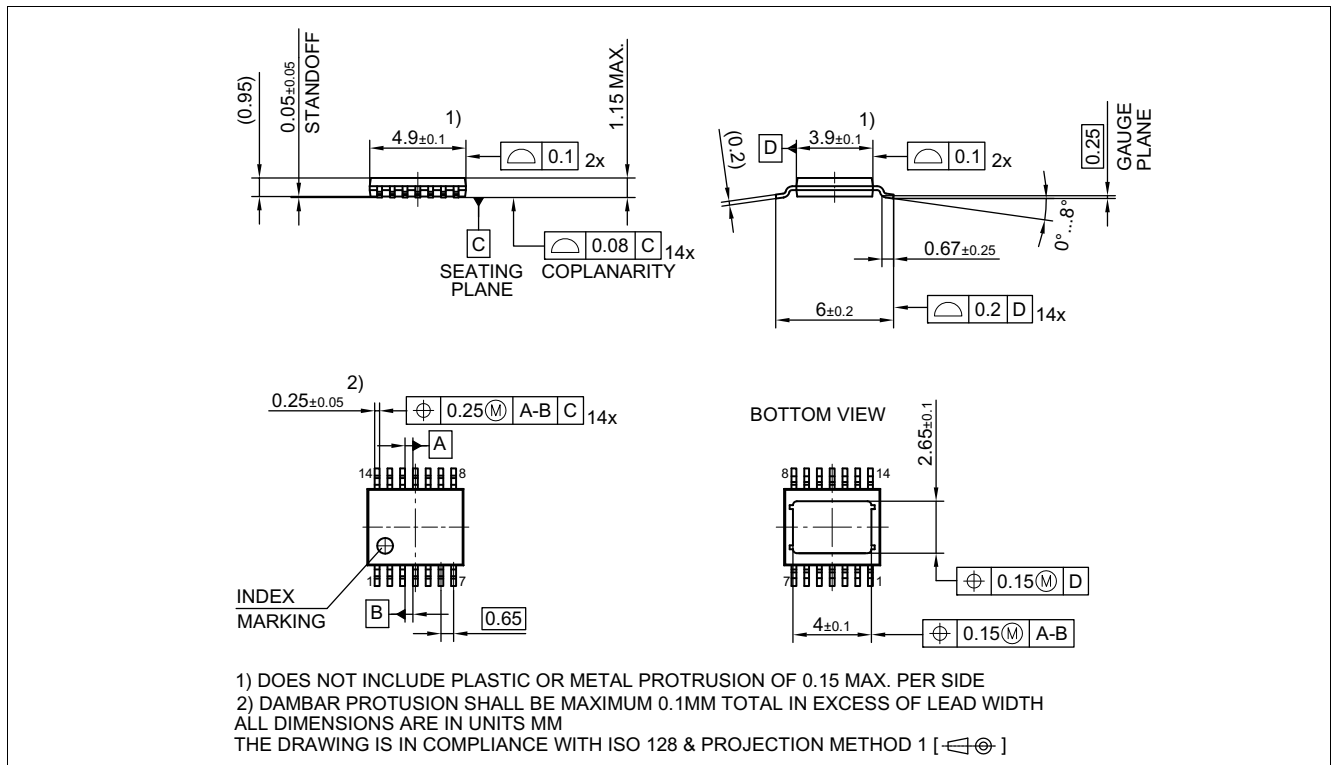
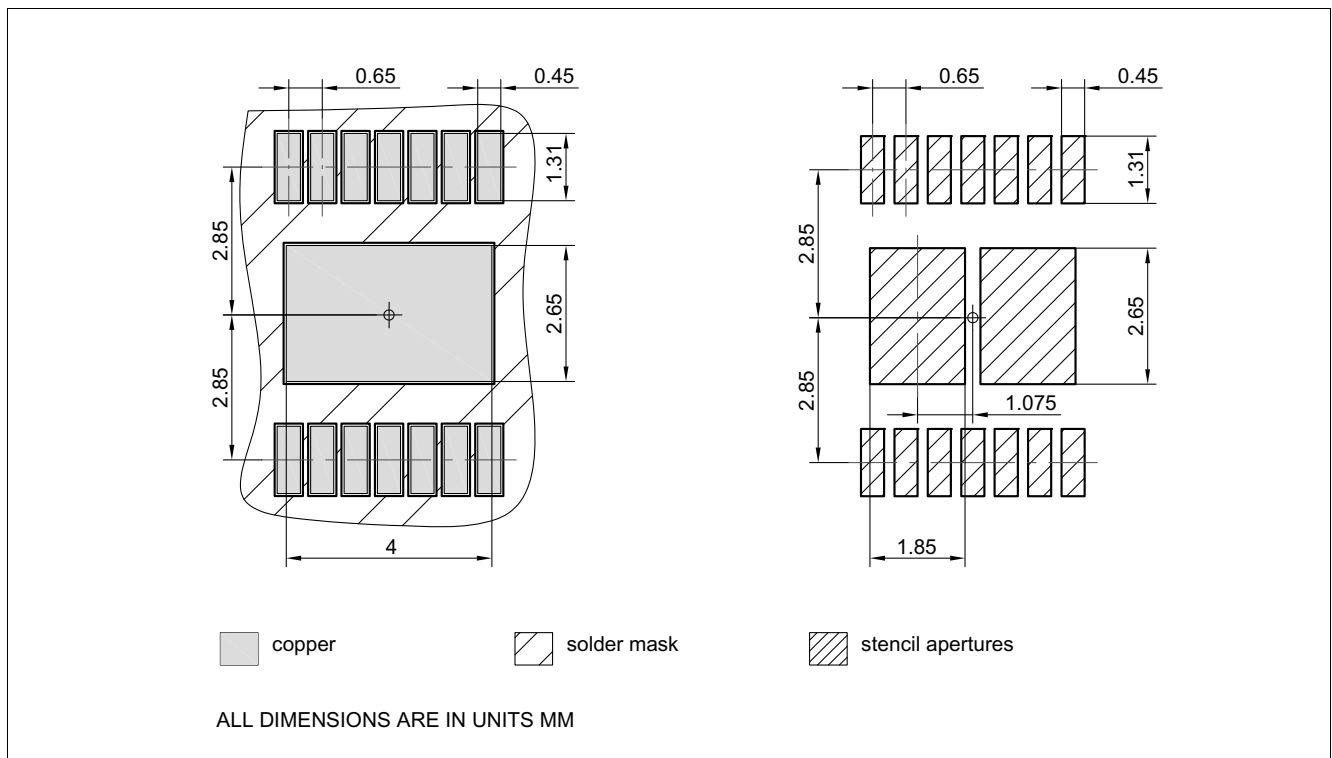

Figure 38 PG-TSDSO-14 (Thin (Slim) Dual Small Outline 14 pins) Package Outline
Figure 39 PG-TSDSO-14 (Thin (Slim) Dual Small Outline 14 pins) Package pads and stencil
1.02, 2019-02-05	<p>Figure 9, Figure 10 updated</p> <p>Page 1: updated (figure product)</p> <p>Table 22 updated (punctuation)</p> <p>Chapter 9.3, Chapter 9.3.1 updated (typo)</p> <p>Page 1: updated (Package PG-TSDSO-14-22 → Package PG-TSDSO-14)</p> <p>Figure 38 updated (PG-TSDSO-14-22 (Thin (Slim) Dual Small Outline 14 pins) Package Outline → PG-TSDSO-14 (Thin (Slim) Dual Small Outline 14 pins) Package Outline)</p> <p>Figure 39 updated (PG-TSDSO-14-22 (Thin (Slim) Dual Small Outline 14 pins) Package pads and stencil → PG-TSDSO-14 (Thin (Slim) Dual Small Outline 14 pins) Package pads and stencil)</p> <p>Table 1 updated (corrected typos in table Product Summary: k_{ILIS}: 14700 → 14500), $I_{VS(OFF)}$: 1 → 0.3 μA)</p> <p>Table 1 updated (Symbol: $I_{VS(OFF)}$ → $I_{VS(OFF)_85}$)</p> <p>P_6.5.23.1 updated (Symbol: $I_{VS(OFF)}$ → $I_{VS(OFF)_85}$)</p> <p>P_6.5.23.2 updated (Symbol: $I_{VS(OFF)}$ → $I_{VS(OFF)_150}$)</p>